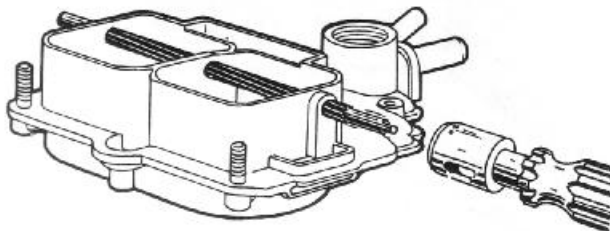

Fig. 9.14 Reaming the choke shaft bore (Sec 7)
3 If on disassembly the choke shaft (8) is a tight fit in the carburettor cover (1) and it is of original diameter (6.0 mm), use Weber tool no 9600 035 0540 to ream the shaft bore clear with the aid of a hand chuck (Fig. 9.14). Should the shaft bores be excessively worn, a new carburettor cover (1) must be obtained, but note that normally the shaft itself will wear quicker than its bore, in which case a new shaft will cure the problem.